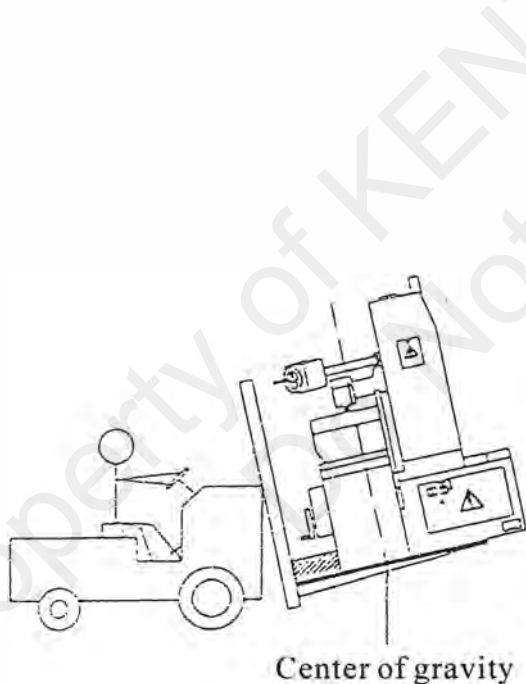

Fig. 4-4
4.3.1.1 When using a forklift, transporting the machine must be done according to Fig. 4-4.